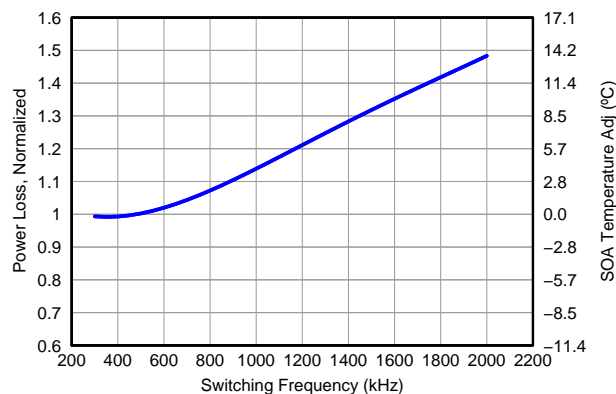

Figure 12. Normalized Power Loss vs Frequency
- Normalized Power Loss for switching frequency ≈ 1.08 (Figure 12)
- SOA adjustment for switching frequency $\approx 2.6^{\circ}C$ (Figure 12)